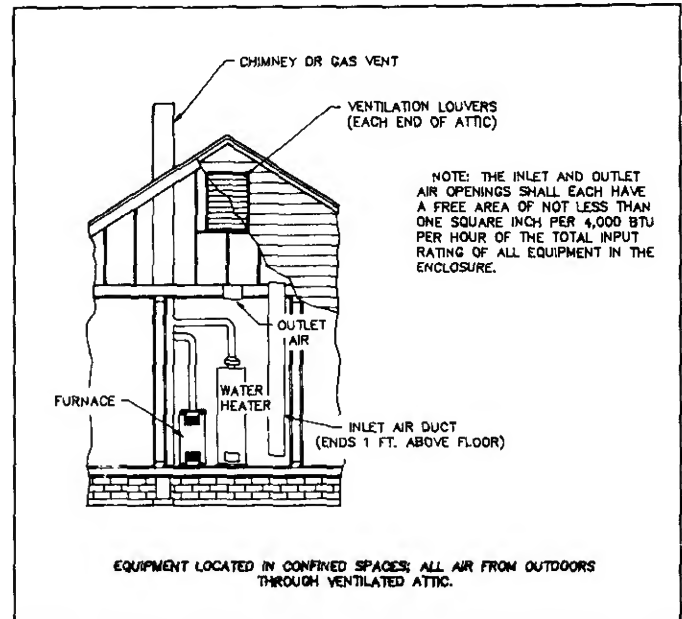

FIGURE 13A
3. When directly accessing the outdoors, each opening must have a minimum free area of one square inch per 4,000 Btuh of total combined input rating of all gas appliances within furnace space. See Figure 13A.